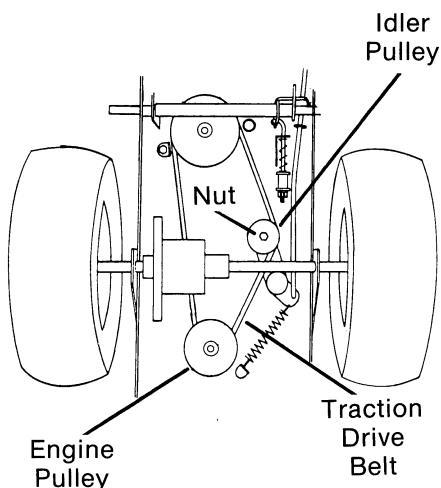

FIG. 7
J. Remove nut securing traction drive idler pulley to idler bracket and remove pulley. (Fig. 7) Slip traction drive belt off engine pulley towards bottom of engine.